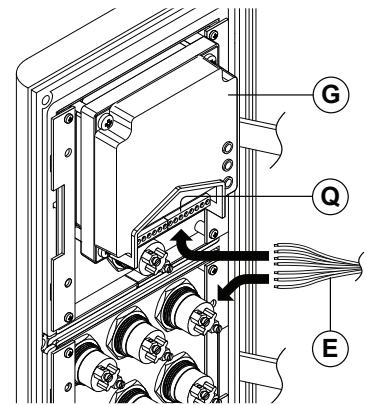
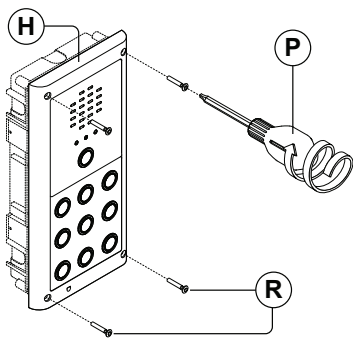

Fig. 66
Fig. 67
8. Take the cable wires (E) and make the required wiring connections into the terminals (Q) on the back of the module (G), as shown in **Fig.66**, using the screwdriver provided (P) (from **Fig.67** and using the flat blade end);
10. After the system has been tested and is working correctly, move back the module support frame (H) carefully and then fix it to the flush box (C) using the screwdriver provided (P) (using the torx end) and the torx pin security screws provided (R), as shown in **Fig.67**. **Note: do not over tighten the screws more than is necessary.**